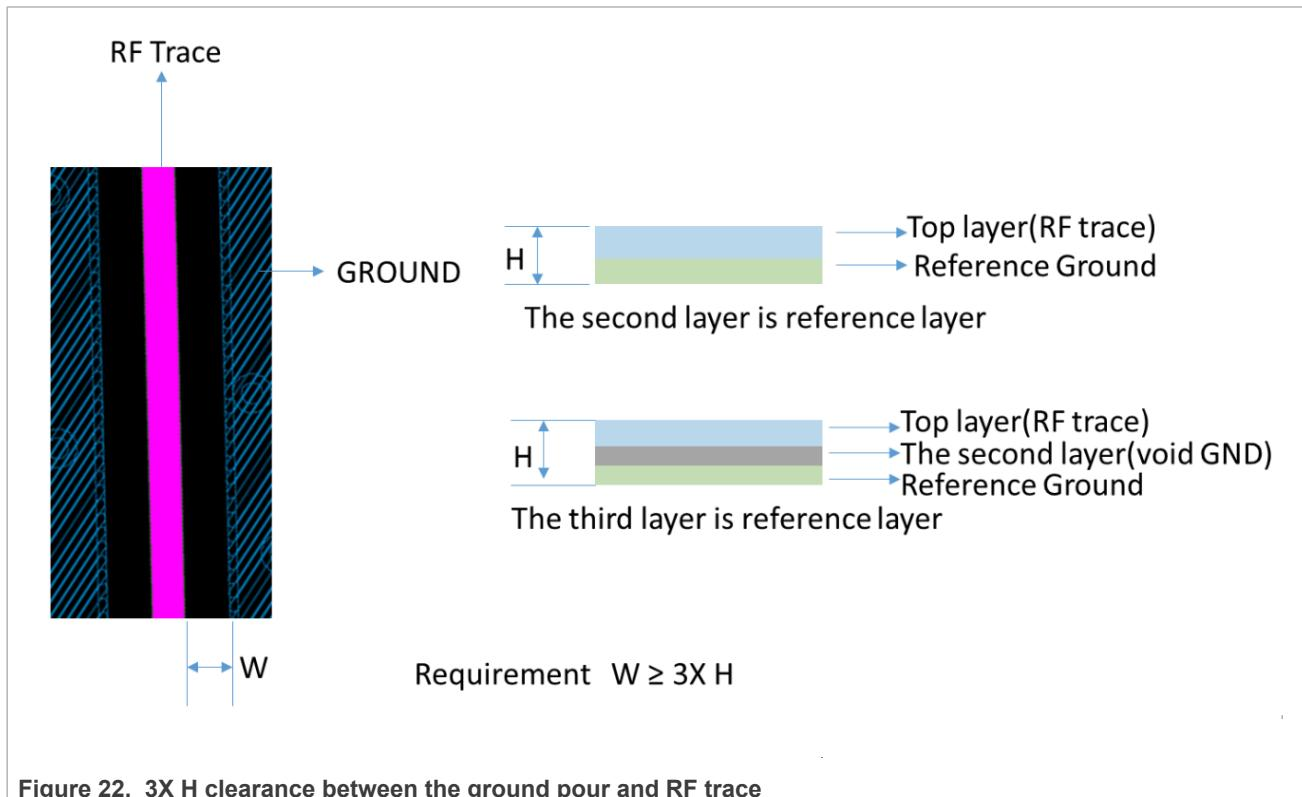

Figure 22. $3X H$ clearance between the ground pour and RF trace
- Use at least a $3X H$ clearance between the ground pour and RF micro strip to minimize the impact on the micro strip impedance. Maintain this gap around any RF signal via, as shown in Figure 22.